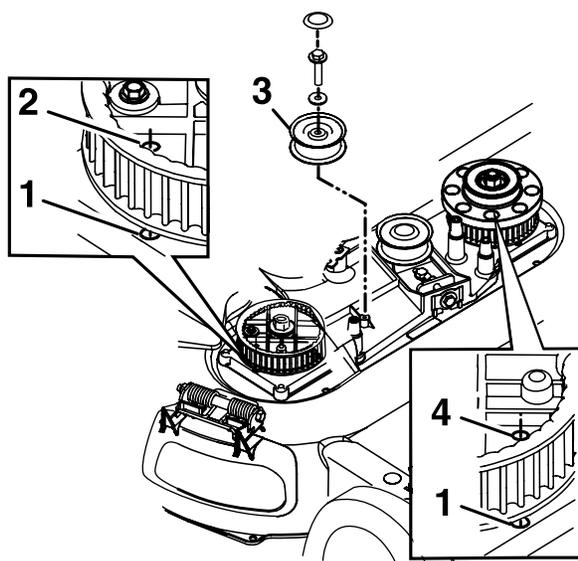

Figure 45
8. Remove the fixed idler pulley and the hardware (Figure 45).
10. Align the holes in the right and left sprockets with the holes in the housing as shown in Figure 45.